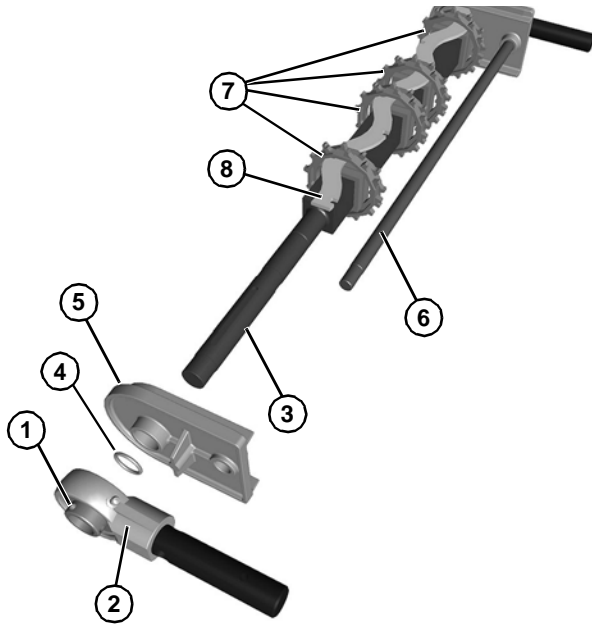

Figure 64
7. Use a hex wrench to loosen two set screws (**Figure 64, item 1**) on the bearing shaft assembly.
8. Slide the bearing shaft assembly (**Figure 64, item 2**) off the drive spindle (**Figure 64, item 3**).
*When removing tracking plate, be certain not to lose O-ring (**Figure 64, item 4**).*
9. Slide the tracking plate (**Figure 64, item 5**) off the drive spindle.
10. Remove pinch guard shaft (**Figure 64, item 6**).
11. Remove the sprockets (**Figure 64, item 7**) and alignment bar (**Figure 64, item 8**).